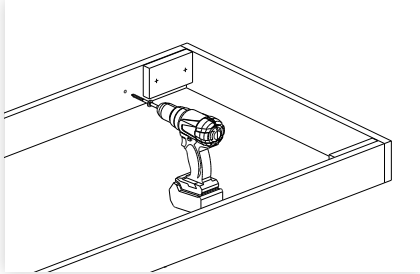

figure 10
7. With the ladder open, pre-drill two 6mm holes in each side of the attic ladder frame making sure there is solid timber behind. Screw through the pre-drilled holes into the ceiling frame (figure 10). Do not fit tight yet.